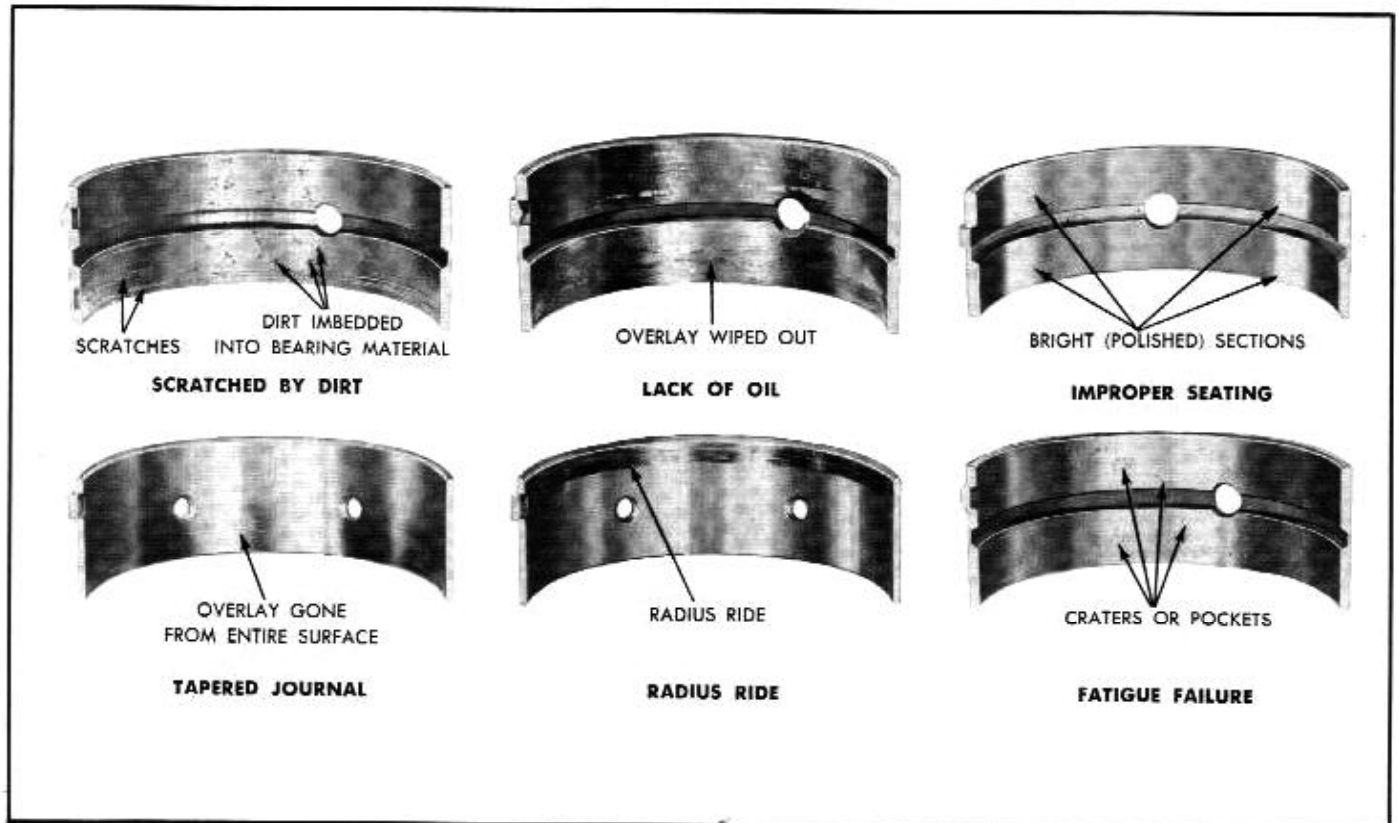

Fig. 6C-128—Bearing Failures — Typical
with fluid. Repeat this operation until all traces of air bubbles disappear. See figure 6C-126.
5. Then, let the ram and the weight force the plunger downward and measure the exact time it takes for the pointer to travel from the "START TIMING" mark to the "STOP TIMING" mark. See figure 6C-127.